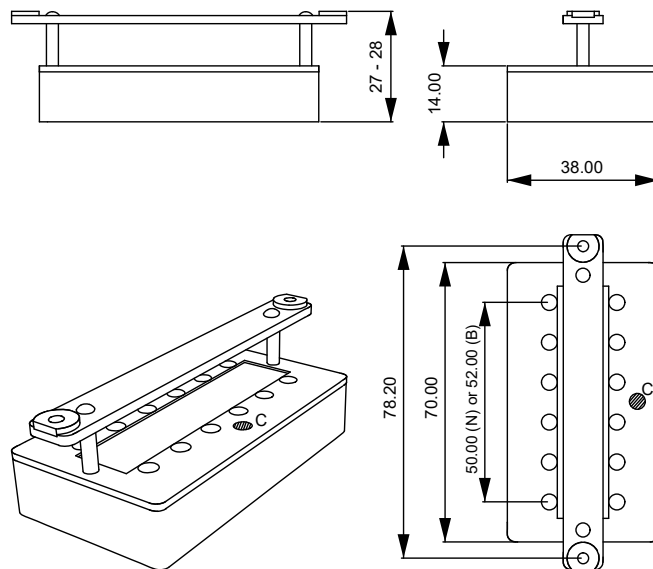

Figure 1 - Case Dimensions (mm)
- The dimensions of the pickups (see Figure 1) must be compatible with the instrument and the available pickup rings. Check the string spread also at the neck and bridge positions: it should be around the polepiece spread of the pickups, give or take 3 mm.